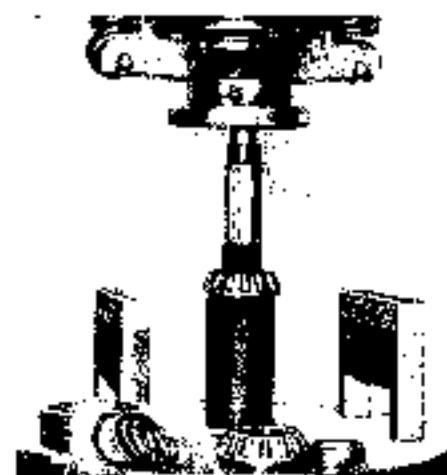

Fig. 52.
- Using a hand press, press off the rear inner race of the taper roller bearing from the pinion (see Fig. 52).